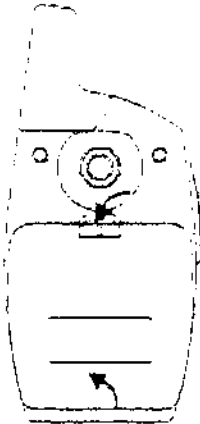
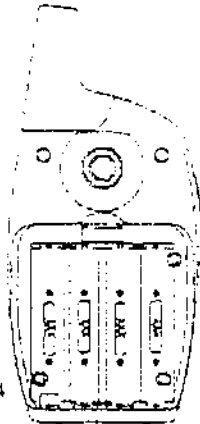

Figure 3
Figure 4
1. Release the BATTERY COMPARTMENT COVER LATCH located on the rear side of the unit (see Figure 3) and remove the BATTERY COMPARTMENT COVER from the BATTERY COMPARTMENT (See Figure 4).